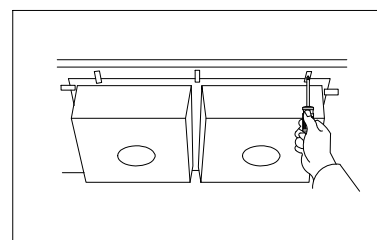

Figure 5
9. Check alignment of sink again and tighten fasteners to secure sink. (FIGURE 5)